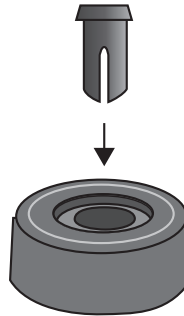

Figure 43. Inserting the Rivet Housing into the Bumper Foot
2. Insert a rivet housing into a bumper foot. Refer to Figure 43.